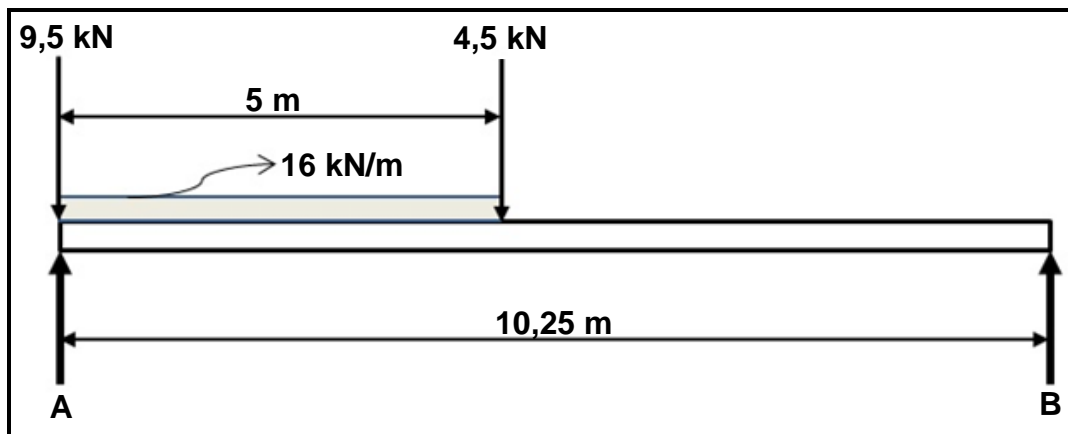

FIGURE 8.2
8.2 FIGURE 8.2 below indicates a uniform beam that is supported by two vertical supports, **A** and **B**. Two vertical point loads and a uniformly distributed load of 16 kN/m are exerted onto the beam.